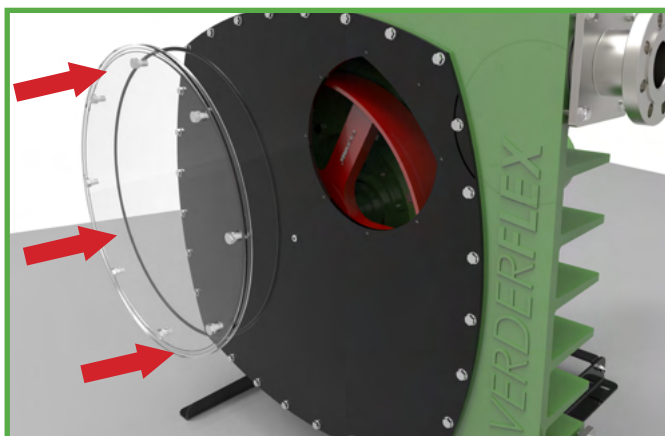

Figure 18 Fitting the Inspection Window
3. Mount the window unit, with the bolts and o-ring, over the front cover, aligned as shown in Figure 18.